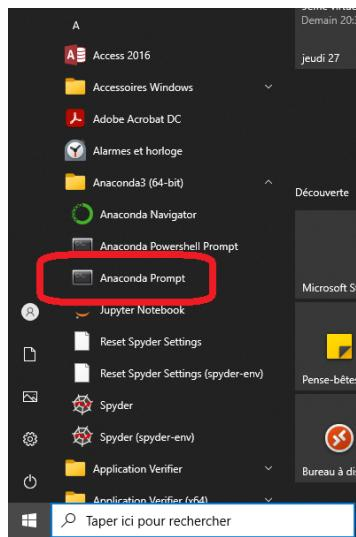

Figure 2: Anaconda prompt
2. **Install the package tclab** before the first laboratory session. Go to the anaconda prompt as shown in Figure 2 and type: “`pip install tclab`”
3. **Install the package Tkinter before** the first laboratory session. Go to the anaconda prompt as shown in Figure 2 and type: “`pip install tk`”